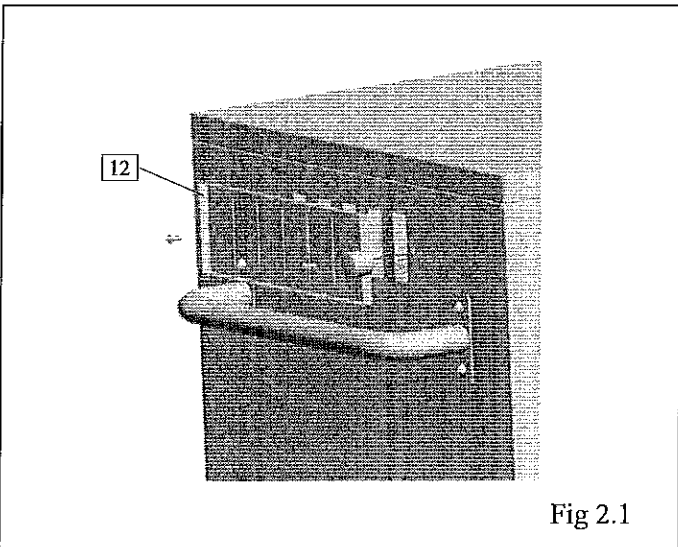

Fig 2.1
Attach the Adjustable Damper Assembly to the back of the Smoker, using (2) M4 x 12 Shoulder bolts. Fig 2.1